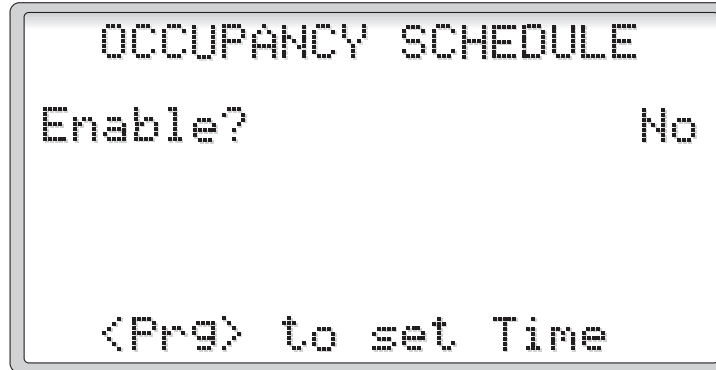

Figure 13
2.3.3 Occupancy Schedule (Figure 13)